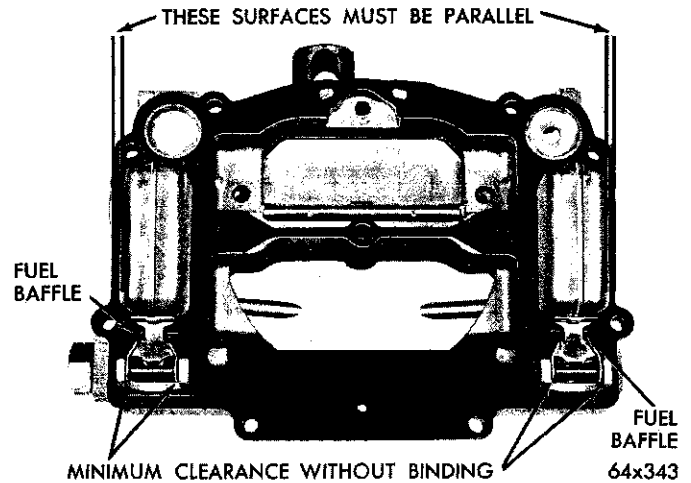

Fig. 9—Measuring the Float Alignment
(1) Sight down the side of each float shell to determine if the side of the float is parallel to the outer edge of the air horn casting, as shown in Figure 9.
(2) If the sides of the float are not in alignment with the edge of casting, bend the float lever by applying pressure to the end of the float shell with the fingers while supporting the float lever with the thumb.
(3) The arms of the float lever should be parallel to the inner surfaces of the lugs or the casting.